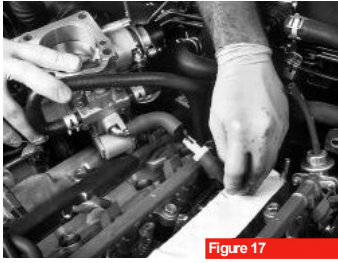

Figure 17
25. Tape over or cover the engine manifold ports to keep out debris (figure 17).